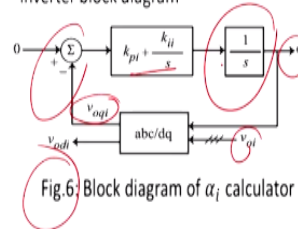

Fig.6: Block diagram of α_i calculator
- As shown in Fig.6, a control block is used to calculate the angle of the i^{th} CCVSI reference frame with respect to the common reference frame α_i such that the quadrature term of output voltage v_{oqi} becomes zero.
The current controller adjusts a direct and the quadrature term of the output current i_{oi} . As shown in the figure 6, a control block is used to calculate the angle of the i^{th} cc CCVSI reference frame with respect to the common reference frame α_i such that the quadrature term of the output voltage v_{oqi} become 0. This control block diagram is named as alpha I calculator. So, we shall see that how does it work.